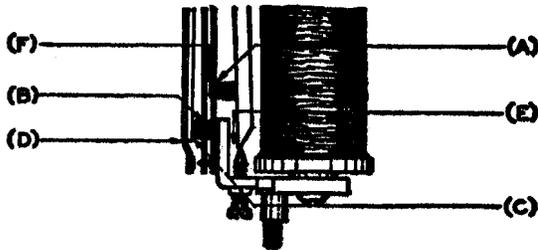

Fig. 1 — 162-type Relay — Top View
1.01 *Armature Stud Clearance:* Fig. 1 (A) — Not touch springs in any position.
1.02 *Traveling Spring Position:* Fig. 1 (B) — Not rub on rubber stops.
1.03 *Stop Spring Position:* Fig. 1 (C) — Rest on the rubber stops.
1.04 *Flexible Front Contact Spring Position:* Fig. 1 (D) — Rest against stop spring, at least at end nearest contact. Relay unoperated.
1.06 *Armature Travel:* Fig. 1 (E) — Unless otherwise specified in Table 2 or on circuit requirement table armature travel shall be as in Table 1 — 92-type gauge.
1.08 *Stud Gap:* Fig. 1 (F)